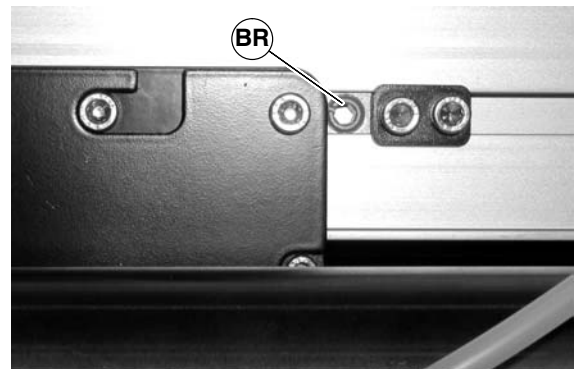

Figure 43
3. Rotate the tracking cam (BR of Figure 43) in small increments, each time inspecting the belt as it exits the center drive. Continue to rotate the tracking cam until conveyor belt is tracking normally.